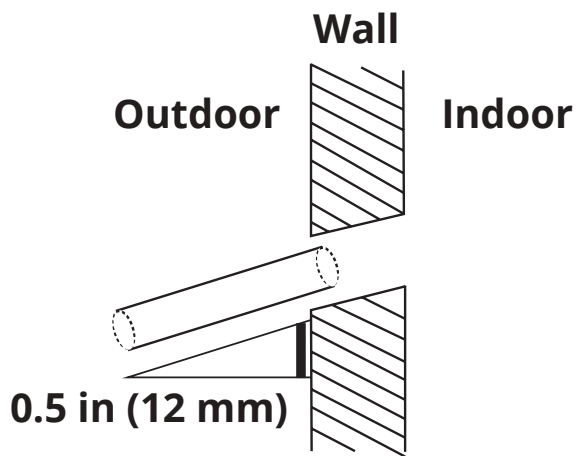

Fig. 5.3
2. Next, using a 3.5 in (90 mm) core drill, drill a hole into the wall to allow the drain pipe to be routed to the exterior of the building. When drilling the hole, be sure to drill it at a slightly downward angle, so that the outdoor end of the hole is lower than the indoor end by roughly 0.5 in (12 mm). This will ensure proper drainage. Please refer to **Fig. 5.3** below as a guide.